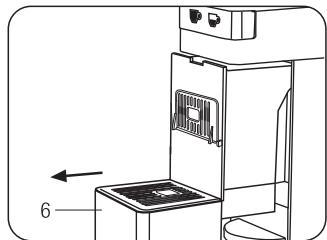
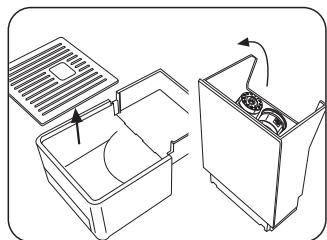

Fig. 11
Fig. 12
Up to 8 capsules can fit into the capsule receptacle. It is advisable to regularly empty the receptacle to prevent the capsules from getting stuck inside it. To do this, you need to remove the capsule receptacle (6). (**Fig. 11**) Empty the capsule receptacle and rinse. Clean off any water and coffee residues from the drip tray and grid(**Fig. 12**). Once clean, reintroduce the tray and the capsule receptacle into the machine .